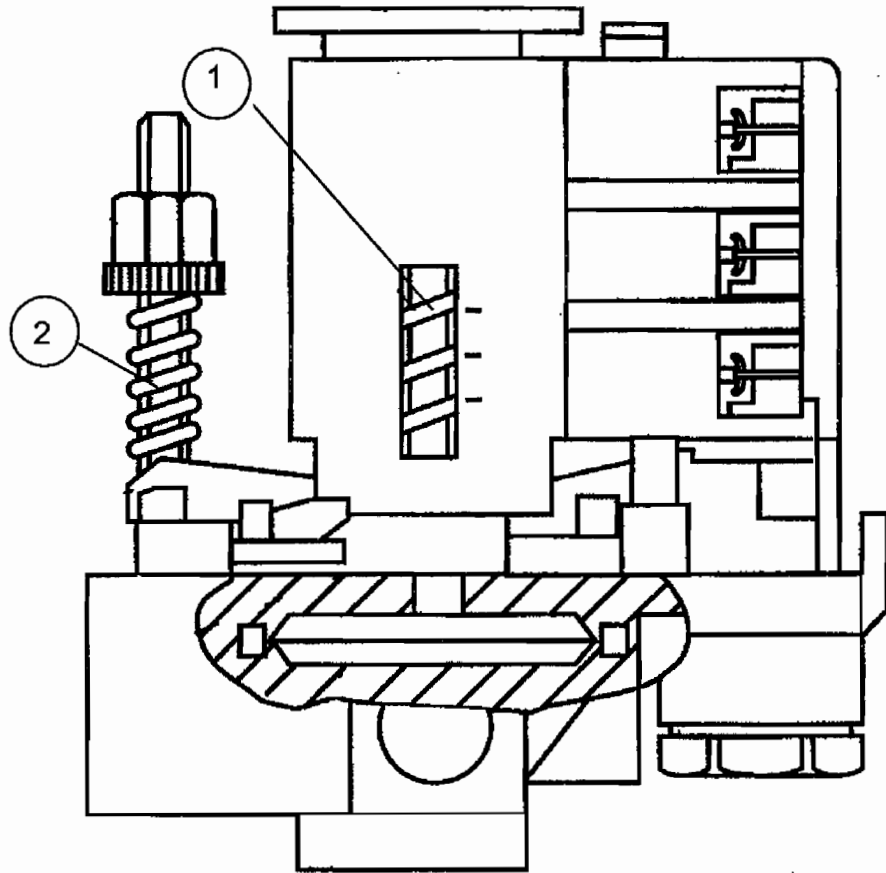

Figure 3-5. Potable Water Pressure Switch
a. Adjustment (Refer to Figure 3-5)